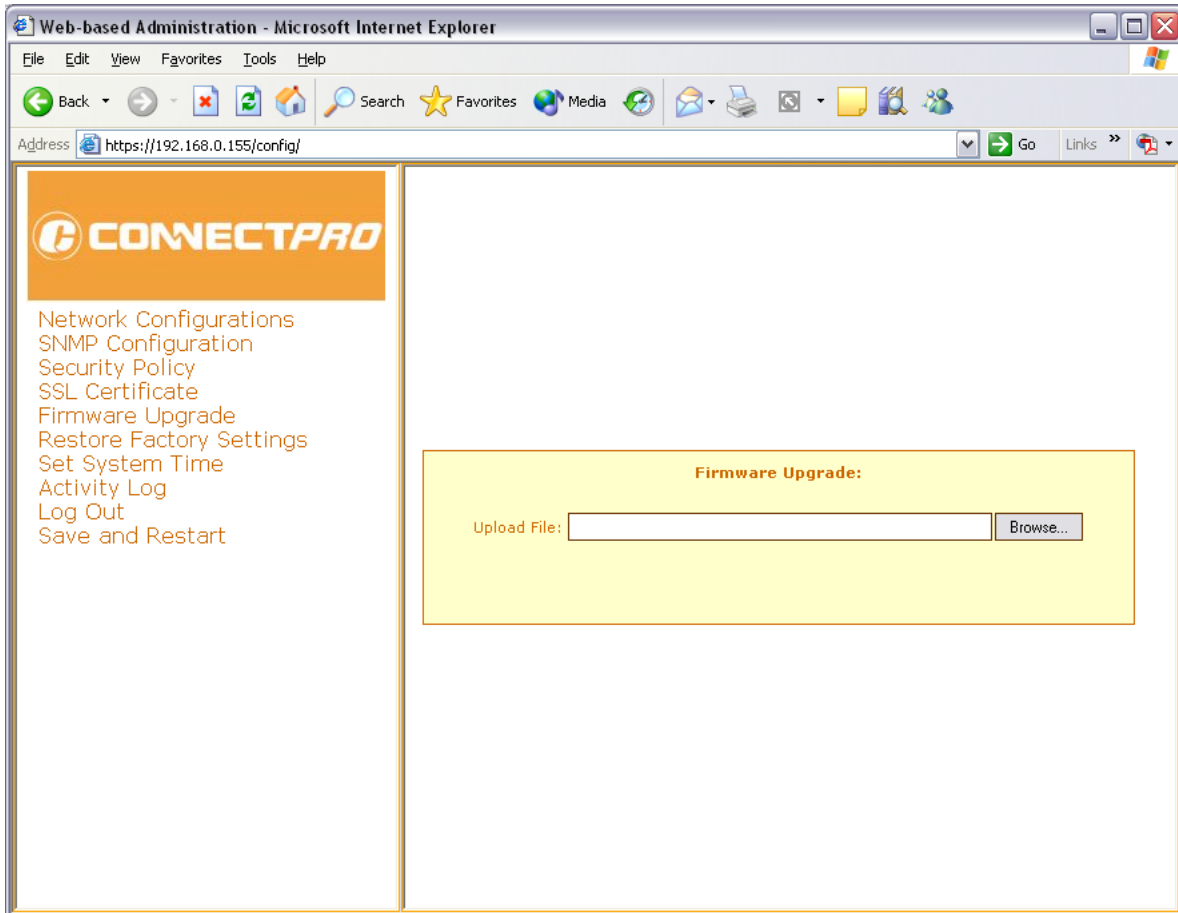

Figure 3: Firmware Upgrade
2. On the DR-1000 web configuration interface, select the Firmware Upgrade option from the main menu on the left side. Browse to located the upgrade file (See *figure 3*)